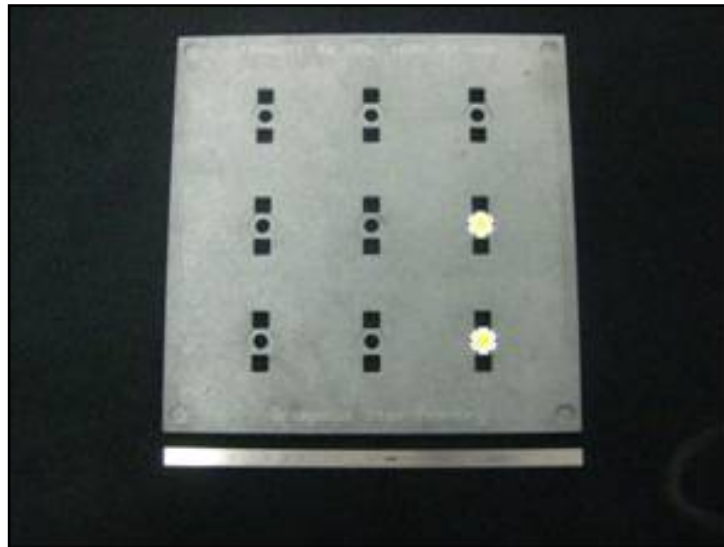

Figure 3a: Solder stencil alignment plate for Star LED Arrays
1. Load the LED Arrays onto the solder stencil alignment plate (Figures 3a and 3b).
Figures 3a and 3b illustrate solder stencil alignment plate designs for dispensing solder flux onto multiple LED Arrays. The configuration shown illustrates one of many possibilities. The LED Arrays may be arranged in a single vertical row, rotated to align the solder pads vertically, or may be more densely packed. Such changes would simplify the application of solder paste using both manual and automated equipment, resulting in increased capacity per fixture. Detailed drawings of suitable alignment plates are contained in the Appendix.